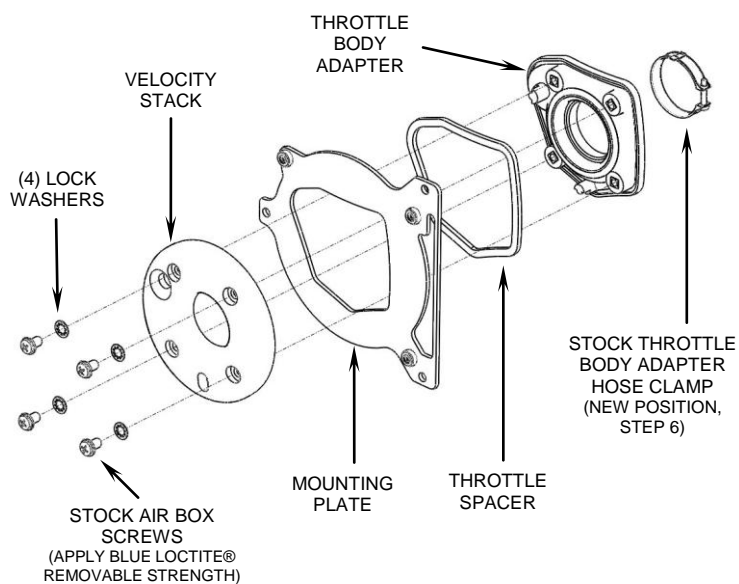

FIGURE 2
5. Using the (4) stock screws from Step 2 and supplied lock washers, bolt together the supplied velocity stack, mounting plate, throttle spacer to the throttle body adapter in the order shown in Figure 2. Note: Apply blue Loctite® removable strength (not supplied) to stock screws before bolting together.
6. Remove hose clamp from rubber seal on the backside of the throttle body adapter and flip 180 degrees then reinstall onto rubber seal, then rotate the clamp 90 degrees counter-clockwise so the screw is accessible from the lower frontside of the motorcycle. See Figure 2. NOTE: the locating tab on the clamp will no longer be engaged; this is correct.